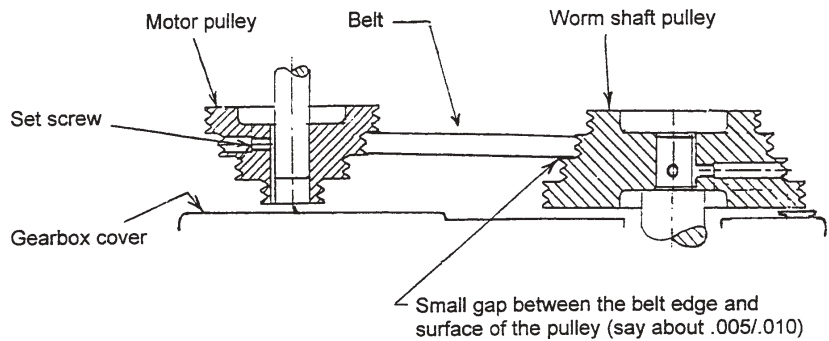

Figure 4.4 - Motor Pulley Adjustment
- s. With reference to Figure 4-4, adjust the motor pulley so that there is a .005"/.010" gap between the belt edge and the pulley surface on the worm shaft.